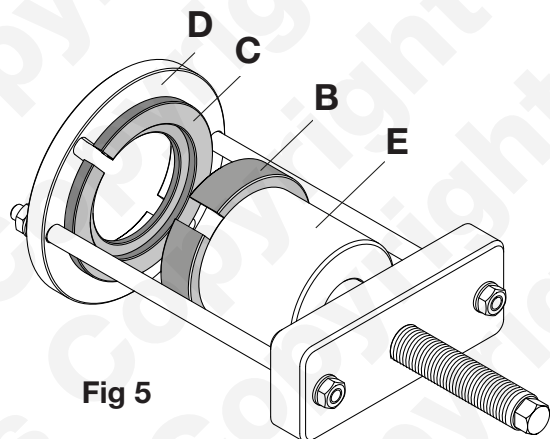

Fig 5
- The new bush must be positioned correctly in ALL directions; for this reason ensure the new bush is positioned in the same position that the old bush came out from. The use of the stepped split ring (B) ensures the new bush is inserted to the correct depth.
- To fit the new bush first assemble the tool components shown in **Fig 5** and ensure the force screw is clean and well lubricated.